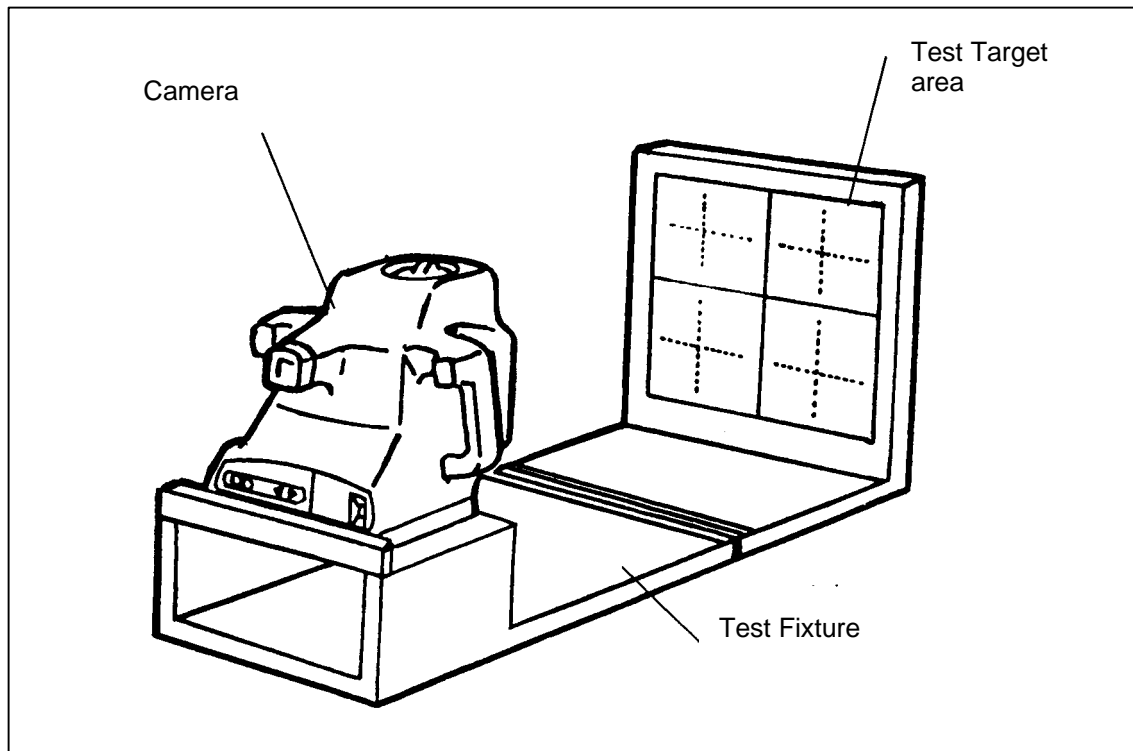

Figure 3-1 Camera Test Fixture
1. Place the camera onto the test fixture as shown in Figure 3-1.